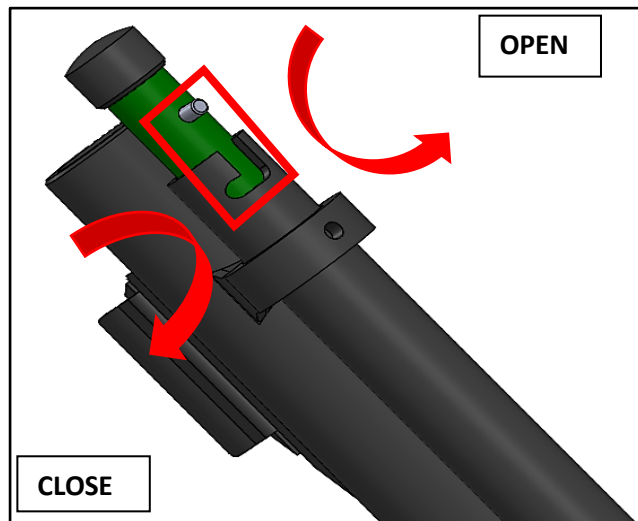

FIGURE 15
3. With the lever remaining open and your fingers away from the trigger (and out of the trigger guard), unlock the inner magazine tube by twisting counterclockwise to open the end cap of the magazine tube and pull the inner tube out - FIGURE 15.
10. Re-insert the inner tube into the outer magazine tube. Once the inner magazine tube is seated fully, re-tighten the end cap by twisting clockwise - FIGURE 15.